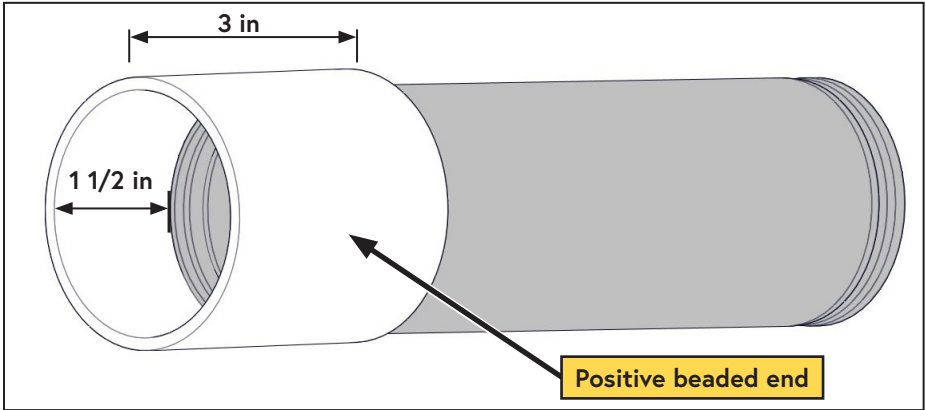

Figure 98 — Installing the CAC hoses
- ☐ Install the supplied (x3) 1/2" ID silicone hose onto the VMAC supplied "hot" CAC tube and secure with a VMAC supplied hose clamp. Ensure the tube is inserted 1 1/2" into the silicone hose (Figure 98).